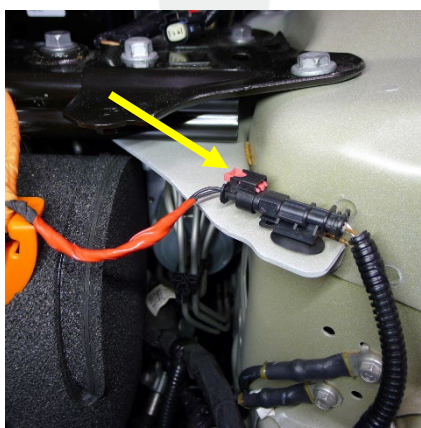

Figure 6
8. Pull the red tab out, and then pull the red tab again to disconnect the A/C compressor HVIL connector from the electrical harness at the LH shock tower (Figure 6).